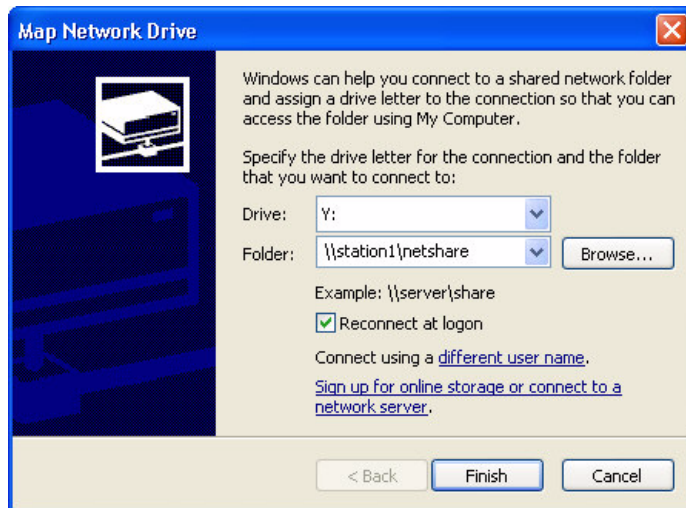

Figure D-19 Enter the Review Station Computer Name and Shared Folder Name
3. In the Folder field, enter the computer name and shared folder name. Use the format “\computer name\shared folder name” as shown below (Figure D-19). In this example, the computer name is **station1** and the shared folder name is **netshare**. The names are not case-sensitive.
If you mapped a Review Station shared folder to an ATLAS 9000, the new drive letter will now be available during the export process on the ATLAS instrument. In the example in Figure D-19, the drive letter **Y:** was mapped to the shared folder on the Review Station. To export to the Review Station PC from the ATLAS instrument, select the mapped drive letter (**Y:** in this case) as the export target. For more detail, refer to Exporting to ATLAS 9000 Series Media on page 11-21.
If you mapped an ATLAS 993/995 shared database folder to a Review Station, the new drive letter will be available to select for database import. On the **Map Network Drive** dialog in Windows XP (Figure D-19), you would enter `"//ATLAS1/exams"` for an ATLAS 993/995 with a computer name of "ATLAS1" and a database directory of "C:/exams." See Importing from ATLAS 900 Series Instrument Databases on page 11-5.